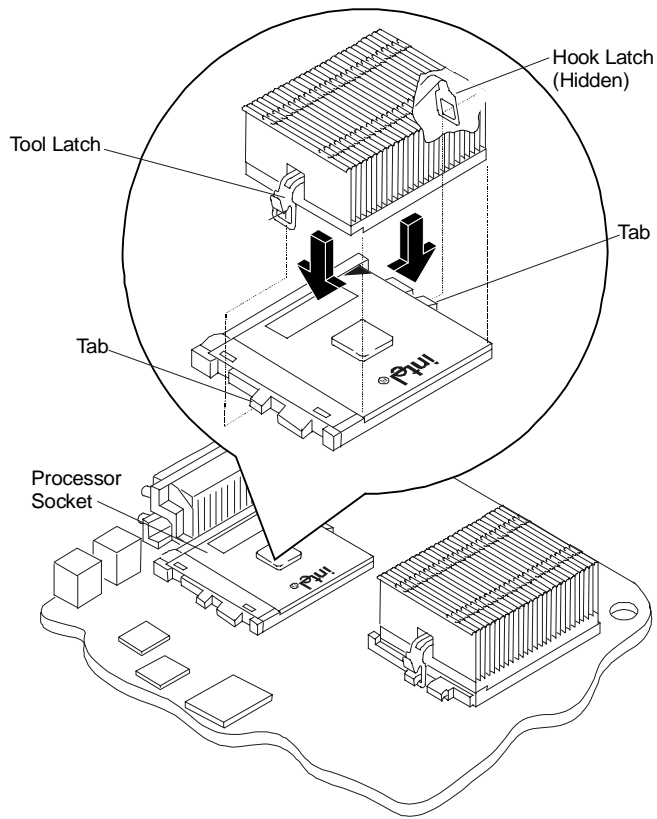
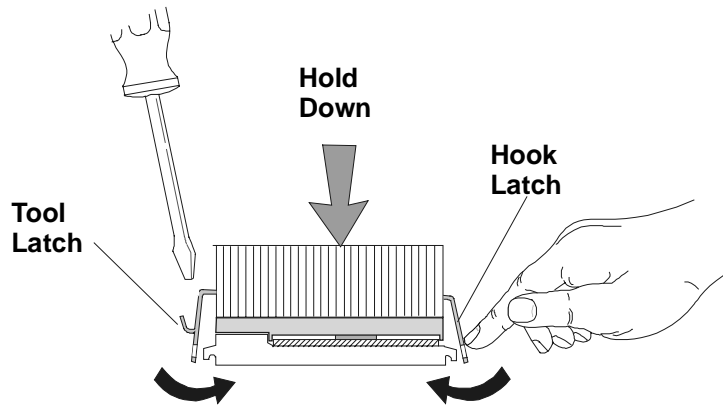

Figure 6-4. Placing the Heatsink on the Processor
Figure 6-5. Setting the Latches
- a. Orient the heatsink with the tool latch is facing left, as shown in Figure 6-4 and Figure 6-5. Then lower the heatsink squarely onto the processor.
- b. Hold the heatsink steady with one hand and press the hook latch down to connect it to the tab. Then insert a flat-head screwdriver into the tool latch and press the latch down to connect it to the tab. See Figure 6-5.